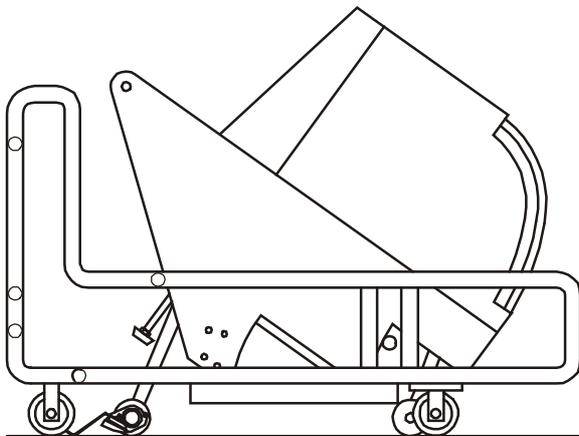

Fig. 18: Moving into transport position
For transport, the machine is removed from the transport trolley with the shaft in front after the fixing axle (46) has been removed and driven into the shaft (see Fig. 18: ).